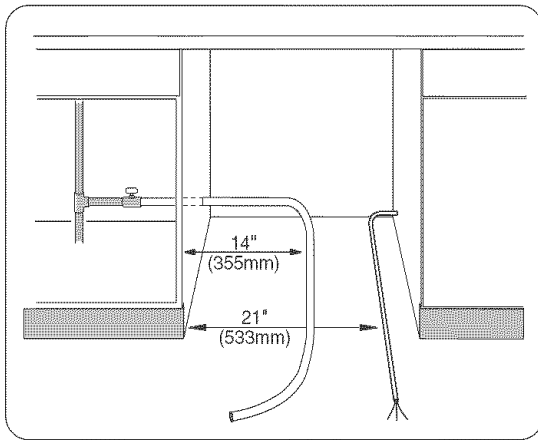

Figure 19
- 1 Straighten and position the hot water supply line and the electrical supply cable as shown in **Figure 19** so that they will align with their channels under the dishwasher base.